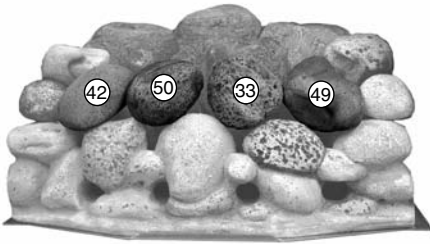

Fig. 33
4. Lay the first row of four loose pebbles on top of the front coal. Ensure the back of the pebbles are resting on the coal bed and there are even gaps all round (Fig. 33).